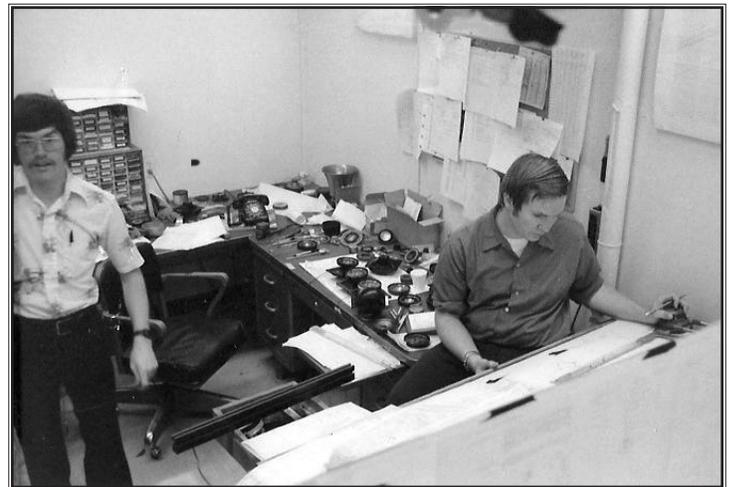

Figure 1. Jeff White (left), author of *The PA Bible*, with Kent Frye, key compression-driver engineer, circa 1977.
*The PA Bible*, covering “what’s wrong with a lot of PA’s” and a “basic approach to system design,” was largely written by Jeff White, a young loudspeaker engineer who worked at EV from 1976 to 1981. See Figure 1. Jeff worked for Ray Newman (1940-1996), then EV’s chief loudspeaker engineer who made a number of major contributions to our industry, including the basic concepts for the design of the now-ubiquitous constant-directivity high-frequency horns and the application of the analyses of A. N. Thiele and R. H. Small to the design of vented low-frequency loudspeaker systems. Jeff set the lighthearted-yet-informative tone of the document and subsequent additions, and wrote a number of them. I also recognize the writing style of Ray in some. I recall being pretty heavily involved in the editing process of many of the documents. Others contributed too.